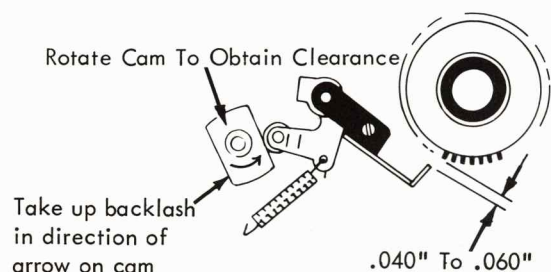

FIGURE 33. Shift Interlock Cam
6. Shift Interlock Cam - With the cycle clutch latched at rest and the backlash of the cycle shaft and filter shaft removed in the operating direction, advance the cam until a clearance of .040" to .060" exists between the tip of the interlock and the top of a tooth on the shift clutch ratchet (Fig. 33).